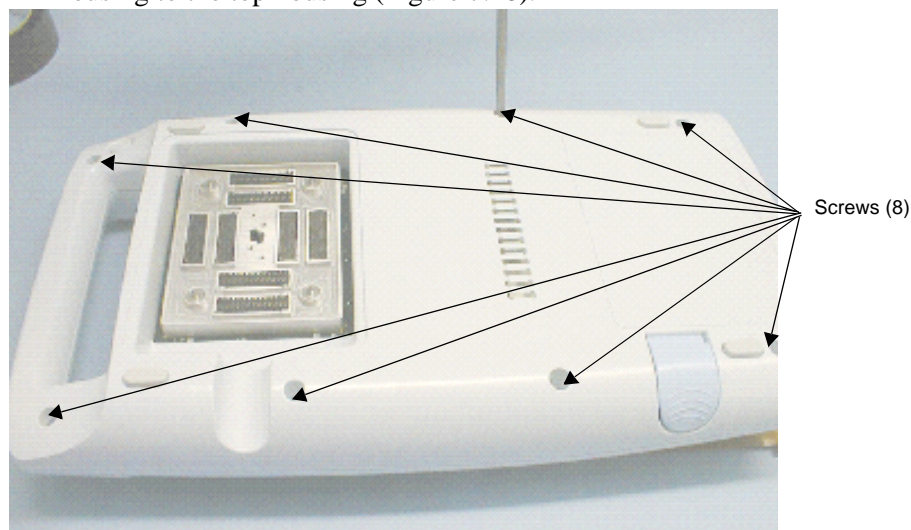

Figure 7.18 Removing the Bottom Housing from the Top Housing
3. Use a #1 Phillips screwdriver to remove the eight screws securing the bottom housing to the top housing (Figure 7.18).